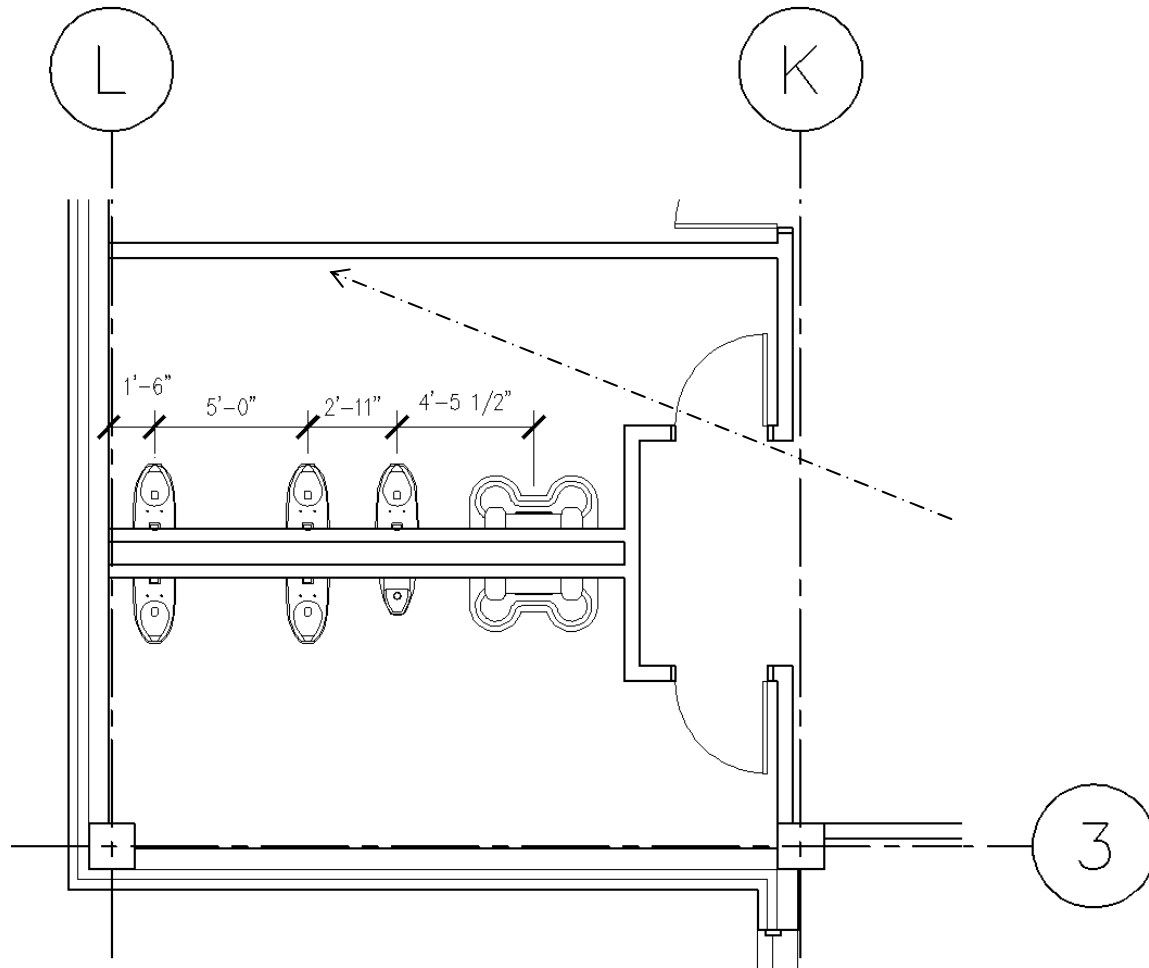

Figure 4-1.8 Place the fixtures shown; dashed line shows sightline
16. Insert the plumbing fixtures as shown in Figure 4-1.8, *plus*:
Sight-lines are typically explored by drawing a line from the adjacent hallway (or space), through the door opening, into the toilet room. Looking at Figure 4-1.8 you can see the sight-lines are quite acceptable. As previously mentioned this design solution takes up a fair amount of floor space but is necessary.